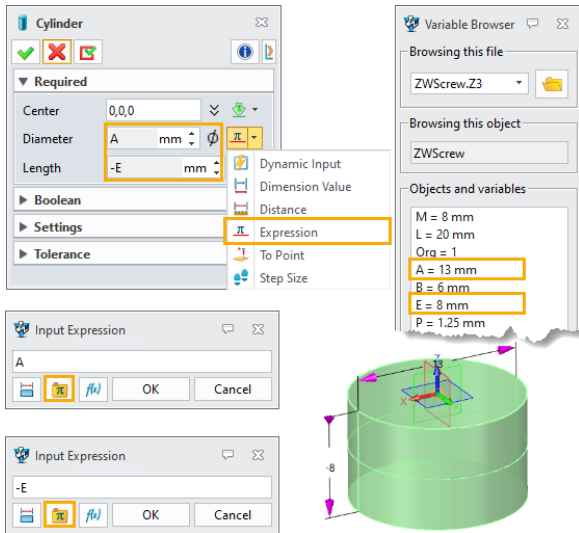

Figure 12 Setting Parameters with Expressions
**STEP 01** Build the screwhead with the **Cylinder** command. Set the expression **A** as its diameter and **-E** as its length, as shown in Figure 12.